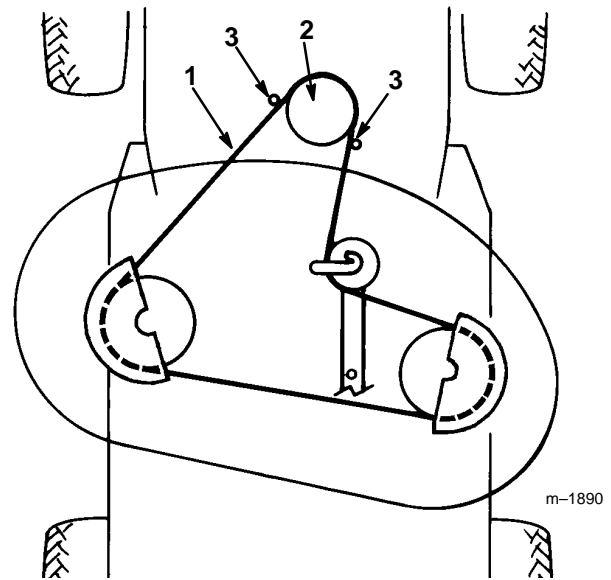

Figure 40
4. Install mower belt onto the lower engine pulley (Fig. 40). If you are careful, you can flex the belt guide(s) just far enough away from the pulley to install the belt. If it is too difficult to install the belt, loosen the bolts and nuts securing the belt guides.